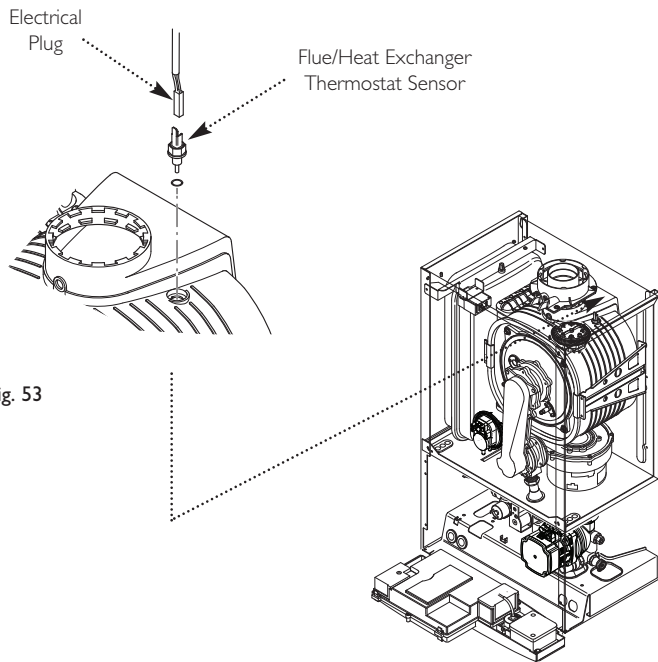

Fig. 53
13.9 Flue/Heat Exchanger Thermostat Sensor (Fig. 53)